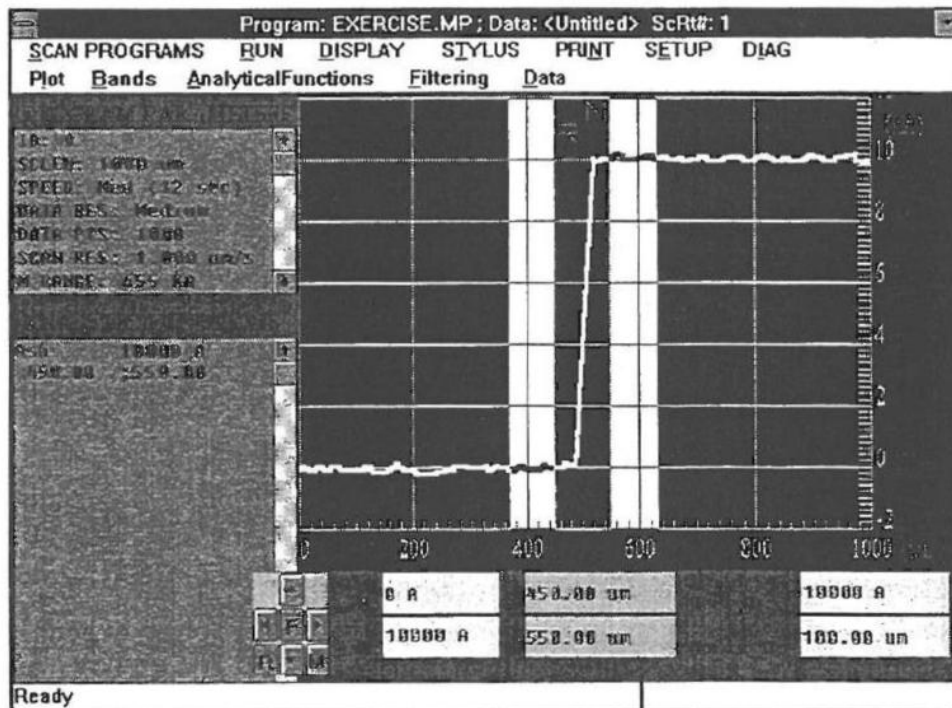

Figure 6 - 1 Average Step Height Cursor Locations
- ASH** Delta Average Step Height: Used to obtain a step height measurement in applications where roughness or noise is present on the profile trace. It computes the difference between two average height measurements (see Figure 6 - 1).